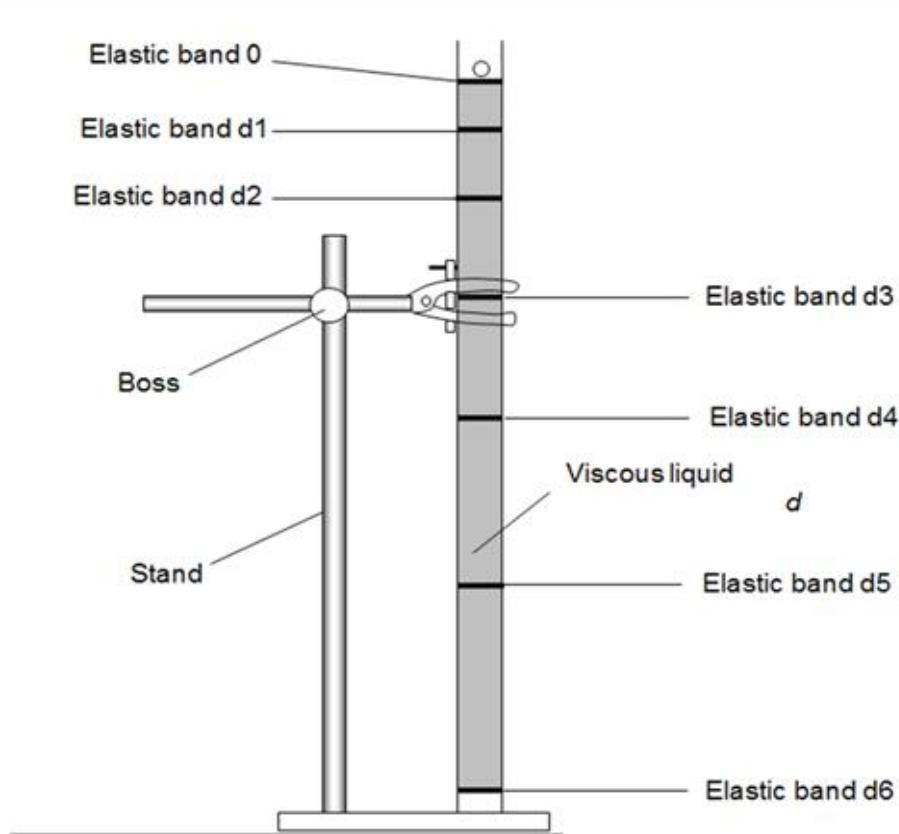

Fig. 1
4. Carefully drop a ball bearing into the centre of the liquid and watch it fall as shown in Fig. 1.